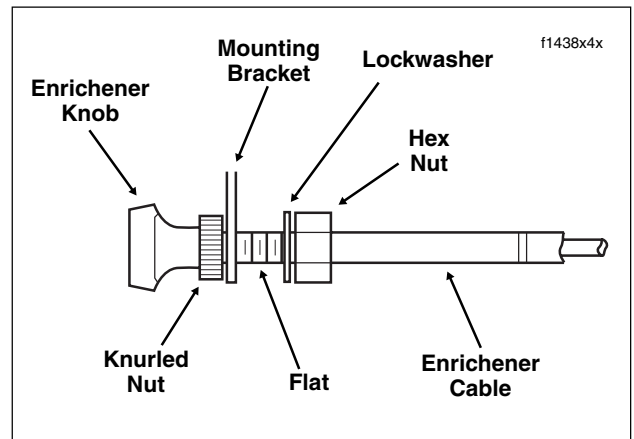

Figure 4-3. Enricher Control
1. See Figure 4-3. Loosen hex nut at backside of mounting bracket.